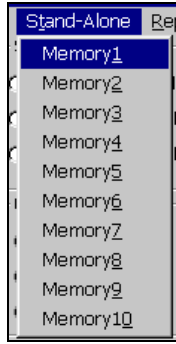

Figure 4-63 Stand-Alone Pulldown Menu
2. Click on **Stand-Alone** on the Master Control Panel menu bar to access the following pulldown menu (Figure 4-63):